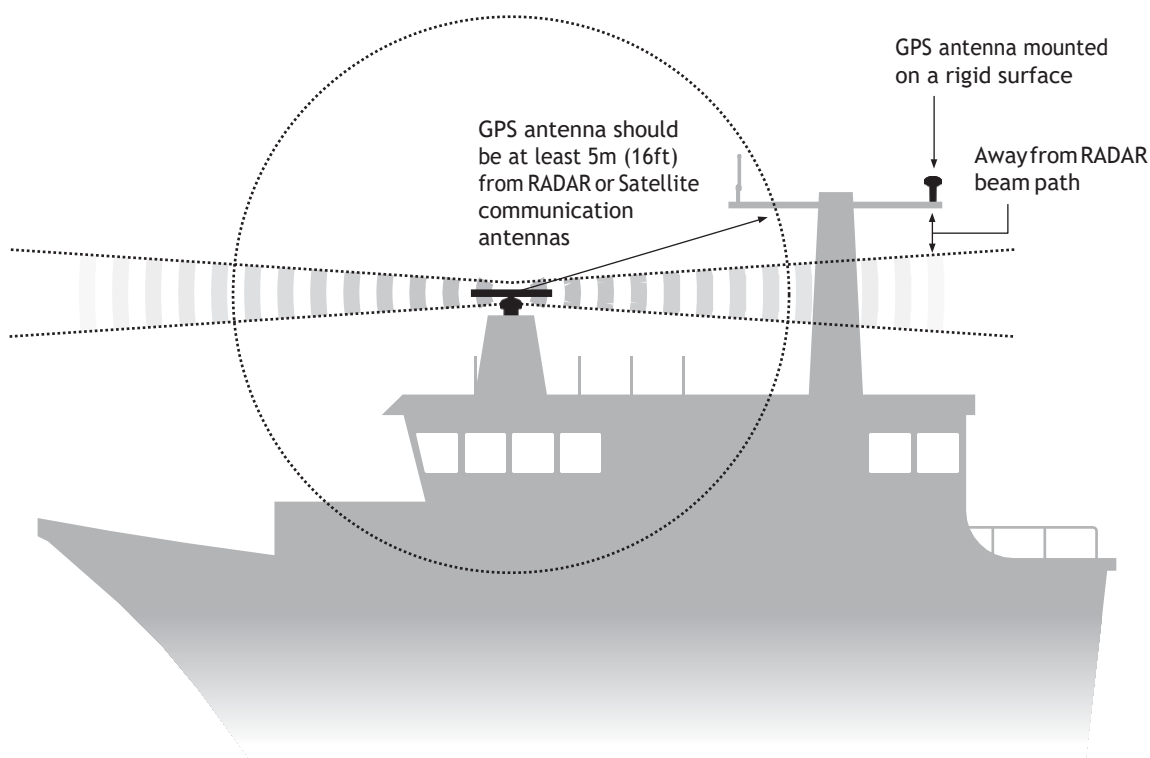

Figure 37 GPS antenna location
- The GPS antenna should be mounted as high as possible, however it is not recommend the antenna is mounted on a top of a high mast where the motion of the vessel will cause the antenna to swing and potentially reduce the accuracy of the GPS position. See Figure 37 for guidance.